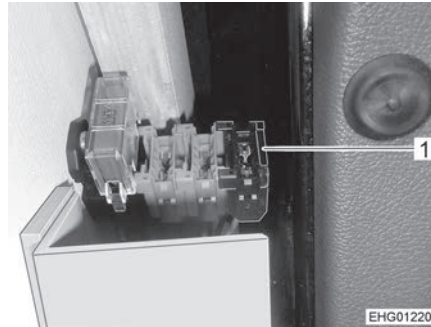

Fig. 117 Fuse holder in left-hand drive vehicles (Ford)
- Replace the fuse on the fuse holder (Fig. 117,1).